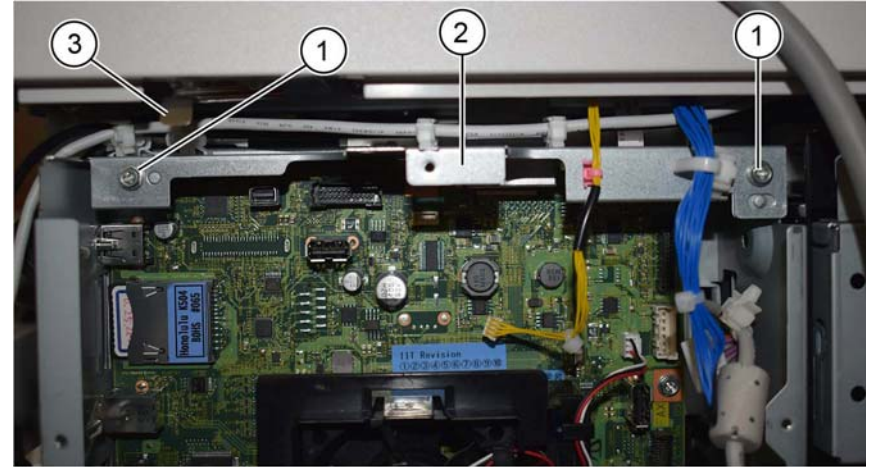

Figure 9 ESS upper panel removal
10. Remove the ESS upper panel, **Figure 9**.
- a. Remove both screws (1).
- b. Remove the ESS upper panel (2).